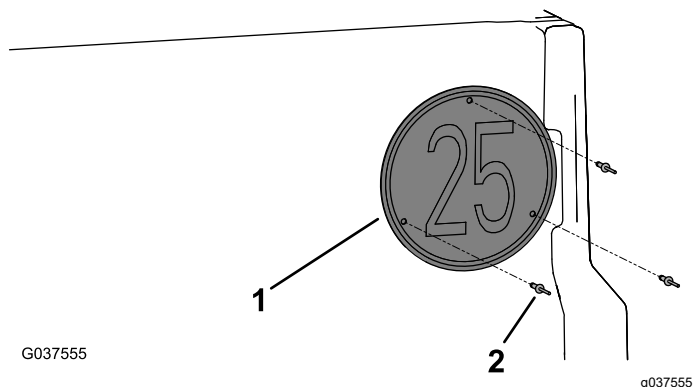

Figure 14
4. Install the speed plate to the tailgate using 3 pop rivets (3/16 x 15/16 inch) as shown in Figure 14.